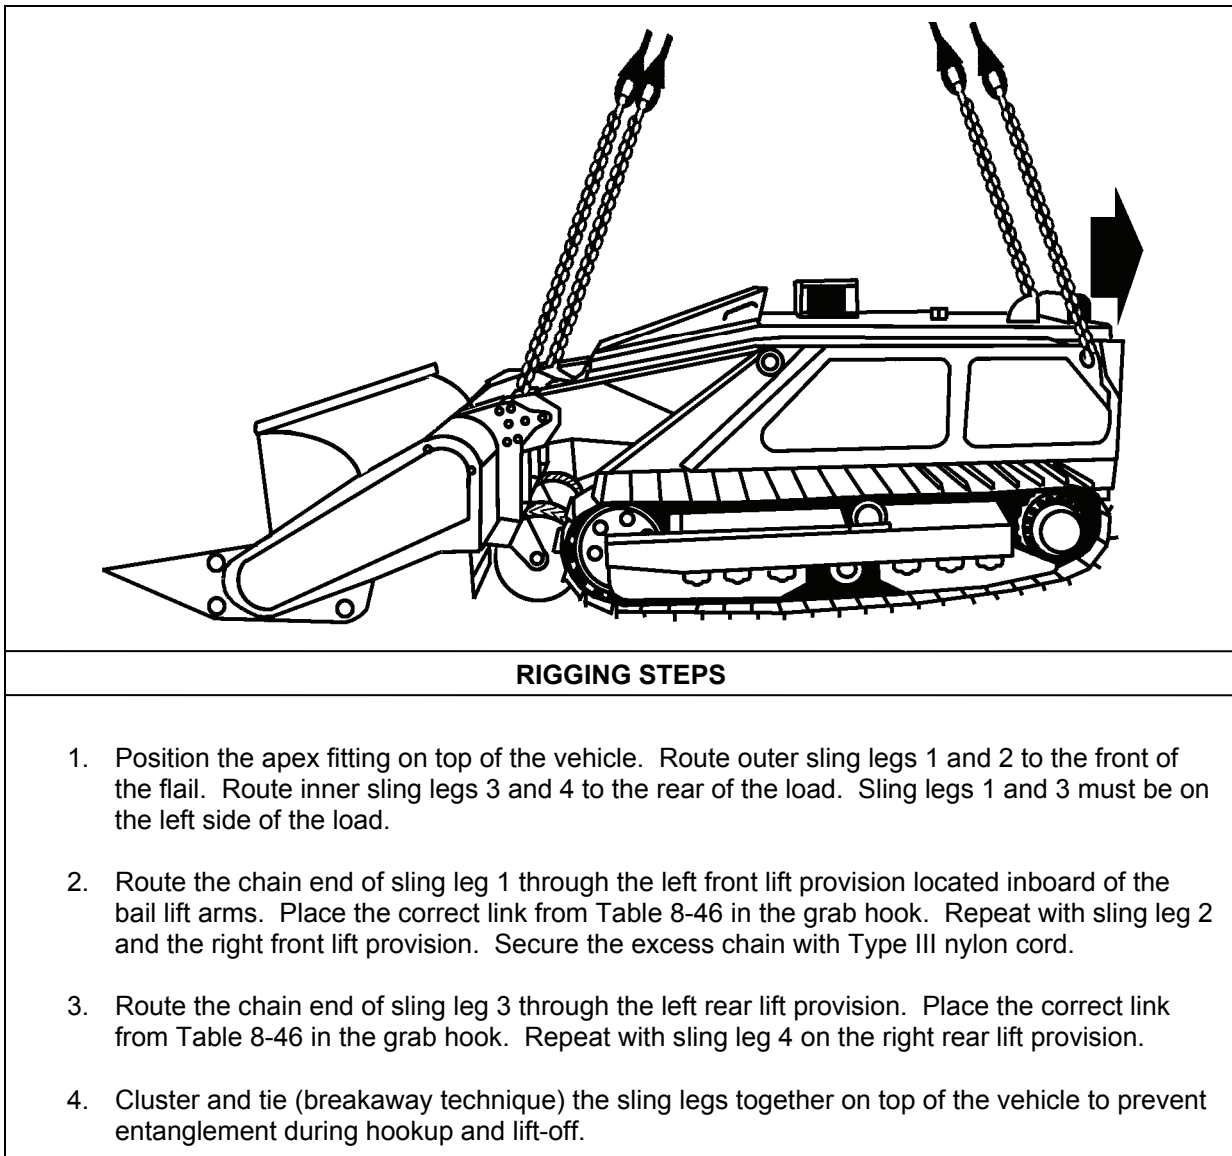

Figure 8-46. M4 Robotic Mine Flail
- **Rigging.** Rig the load according to the steps in Figure 8-46.